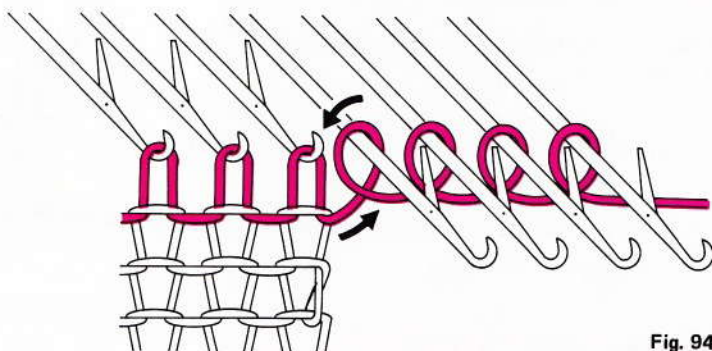

Fig. 94
- Wind the yarn loosely behind the latches, under the needle and round over the top (fig. 94).